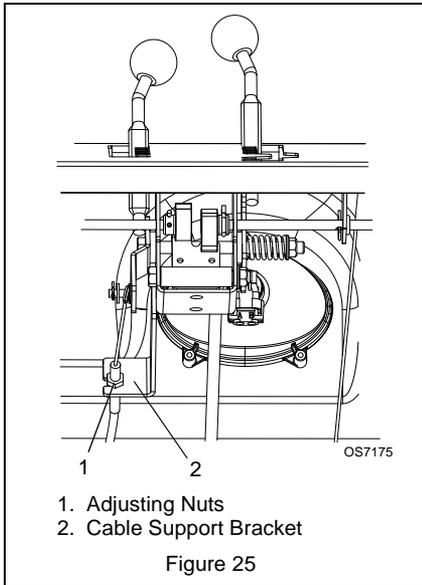

Figure 25
(Figure 25)
2. Loosen adjusting nuts on cable support bracket underneath the dash panel (Figure 25).